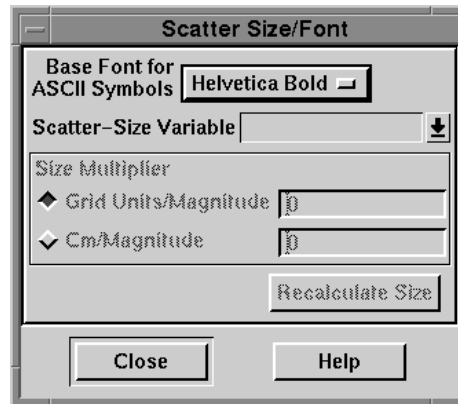

Figure 14-5. The Scatter Size/Font dialog.
1. Choose Scatter Size/Font from the Scatter sub-menu of the Field menu. The Scatter Size/Font dialog appears as shown in Figure 14-5.
You can change the base font used for ASCII character symbols to any of Tecplot's basic fonts (Helvetica, Courier Bold, etc.). To do this, choose Scatter Size/Font from the Field menu. The Scatter Size/Font dialog appears as shown in Figure 14-5. Choose the desired font from the
4. Choose Scatter Size/Font from the Scatter sub-menu of the Field menu. The Scatter Size/Font dialog appears, as shown in Figure 14-5.